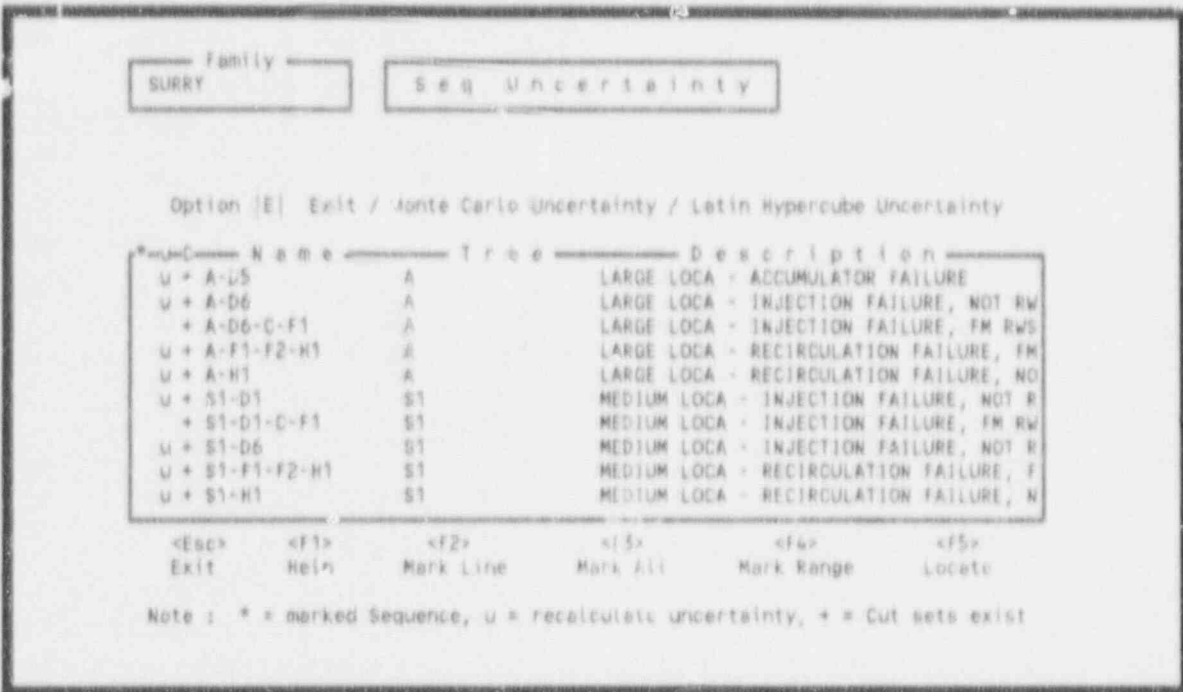

Figure 153. Sequence uncertainty * :nu.
8.2.5.2 Single. To generate a single uncertainty analysis, enter an <S> in the option field. The Sequence Uncertainty menu will be displayed (Figure 153). From this menu you may run a single uncertainty analysis for either a single highlighted sequence, for a group of marked sequences, or for all of the sequences within the current family.